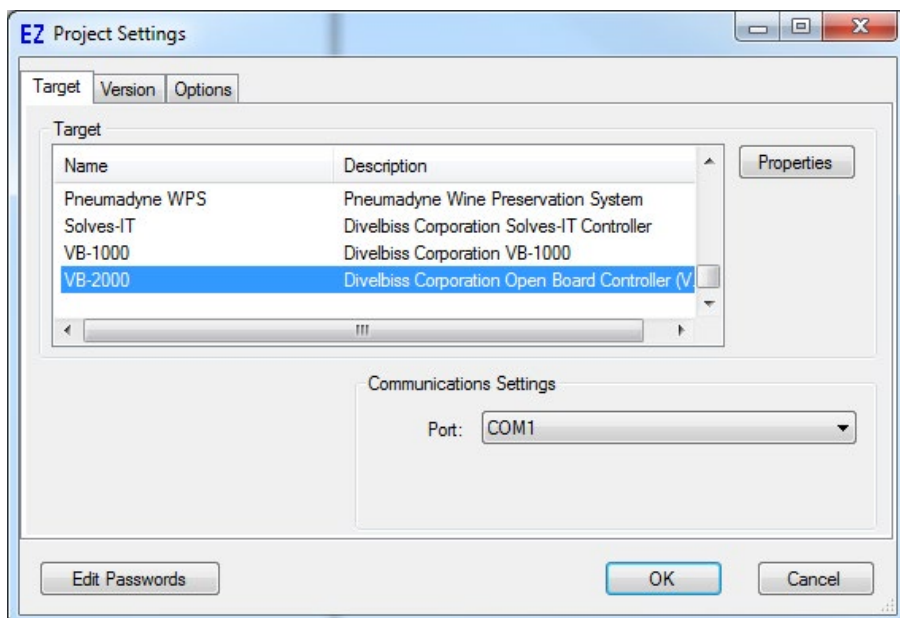

Figure 2-7 - Project Settings Window
1. In EZ LADDER, from the File Menu at the top, click **PROJECT** then **SETTINGS**. This will open the Project Settings Window. Select **VB-2000** as the target from the choices. Refer to Figure 2-7.